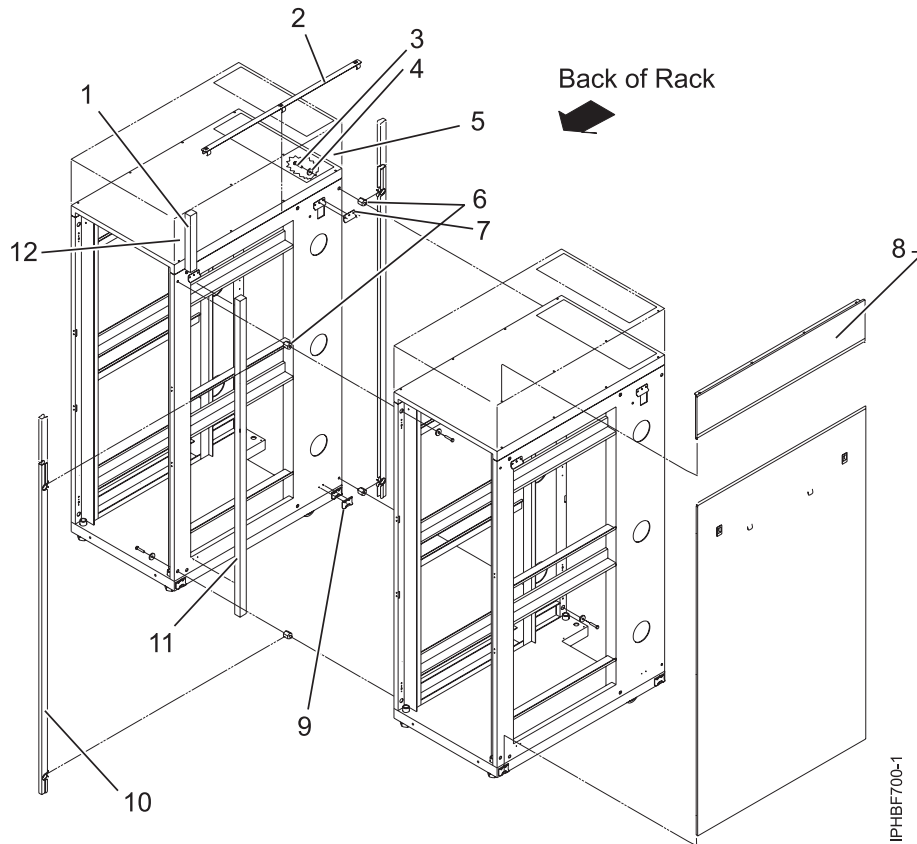

Figure 63. Removing the side panels, Z and J brackets, and installing standoffs and long foam to connect multiple racks.
4. Install the first two standoffs in the upper-left and lower-right corners of the first rack as shown in Figure 63 on page 63.
5. Install the second two standoffs in the upper-left and lower-right corners of the second rack as shown in Figure 63.
6. Attach the long foam as shown in Figure 63. For a model T42 rack, join the short foam to the end of the long foam, and adhere it to the frame length of the rack.